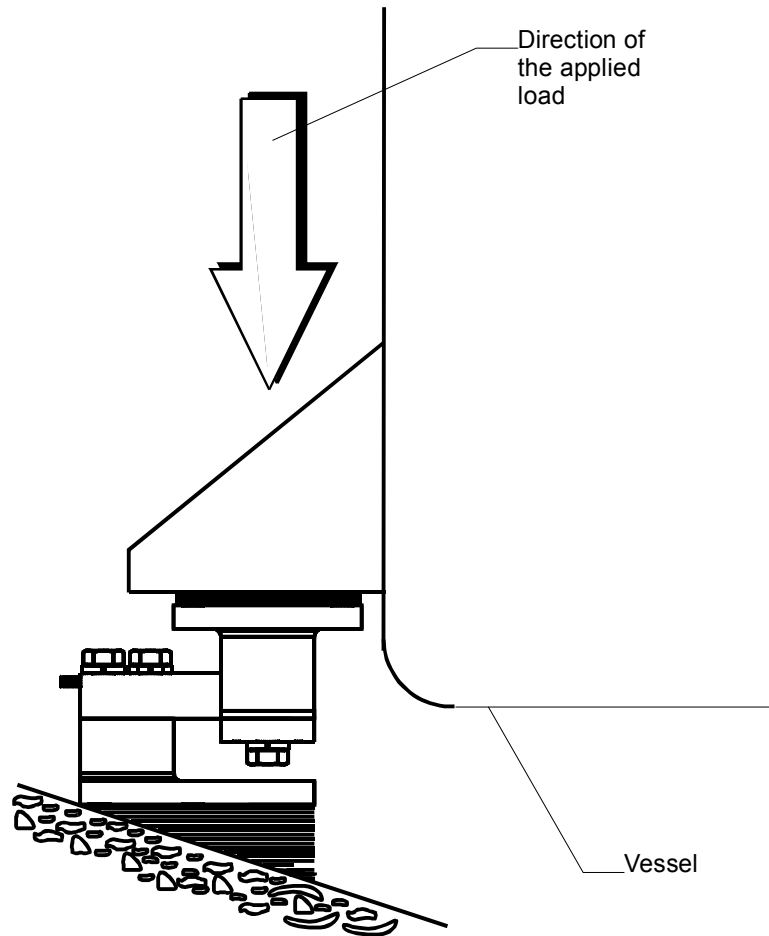

FIG. 6-1 PROPERLY INSTALLED LOAD CELL W/NO BINDING
- A load cell must be mounted in such a way that 100% of the load (Vessel w/Contents) is vertically passed through a load cell. (See Fig. 6-1)